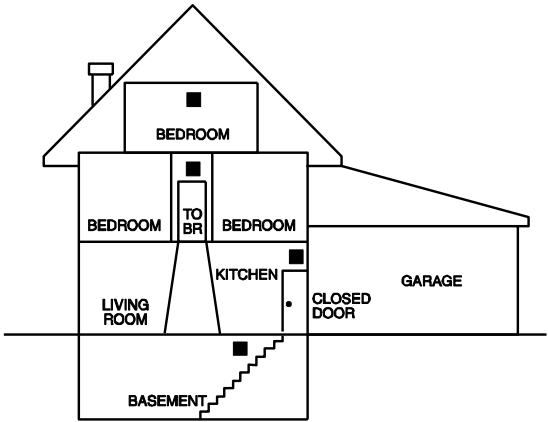

Figure 5. Detector Location Diagram
1. Depress and hold the CO TEST/HUSH (**) button for approximately 3-5 full seconds. Refer to Figure 5.